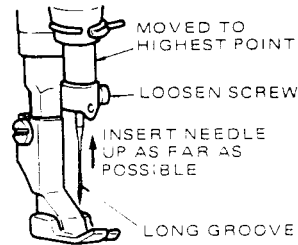

Fig. 10
- Loosen needle set screw as shown in Fig. 10.